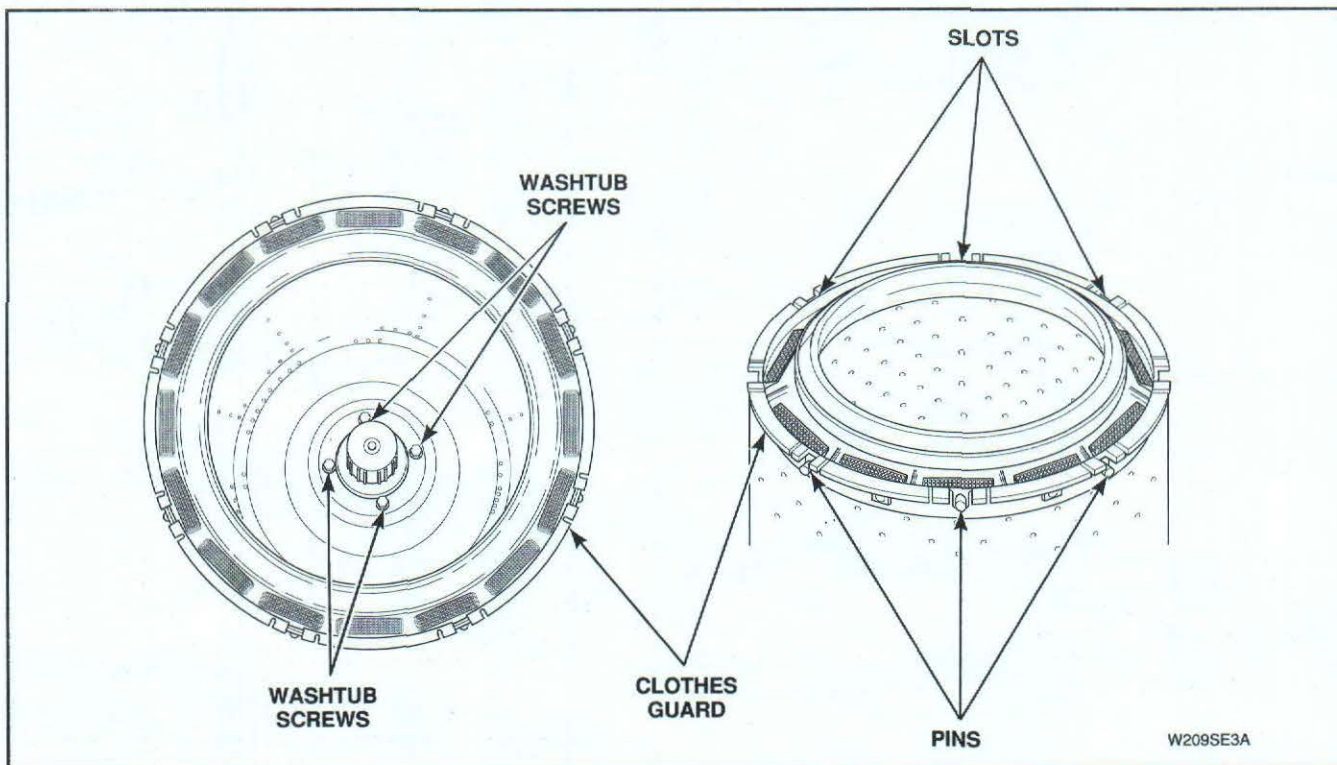

Figure 40
- o. Remove four screws and washers holding washtub to hub, *Figure 40*.
- a. Place blade of a small screwdriver into slots between clothes guard and washtub, *Figure 40*.
- b. Carefully pry pins of clothes guard out of holes in washtub, *Figure 40*.